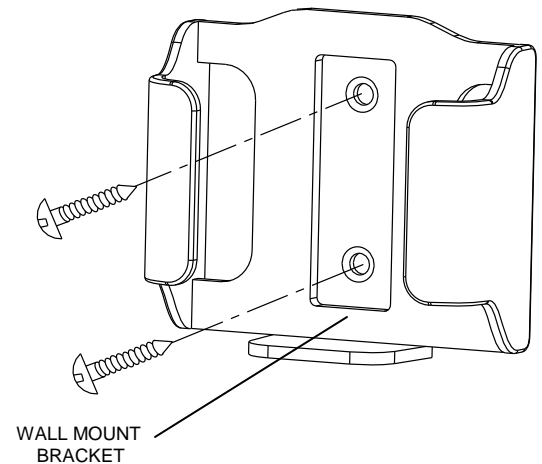

FIG 5
2. Use two screws (included) and wall anchors to install wall mount bracket as shown in FIG. 5. (Tools required for assembly: Philips screwdriver, not included)